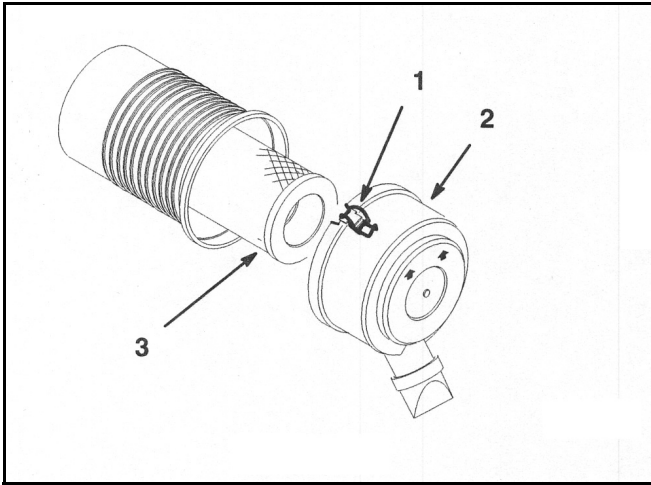

Figure 6
3. Clean around the air cleaner to prevent dirt from getting into the engine and causing damage. Loosen the retaining clips and remove the air cleaner cover (Figure 6).
1. Carefully slide the element into the compartment (Figure 6).
2. Place the air cleaner cover into the compartment and latch the retaining clips (Figure 6).